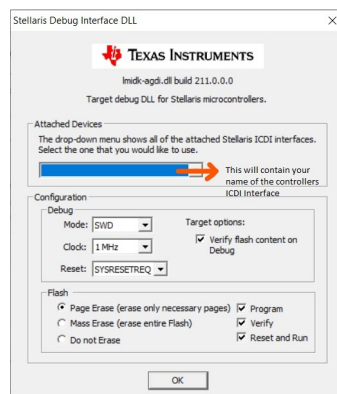

Figure 1.20: Settings for Using Stellaris ICDI
- Click on *Settings* next to it and make sure they match Figure 1.20.